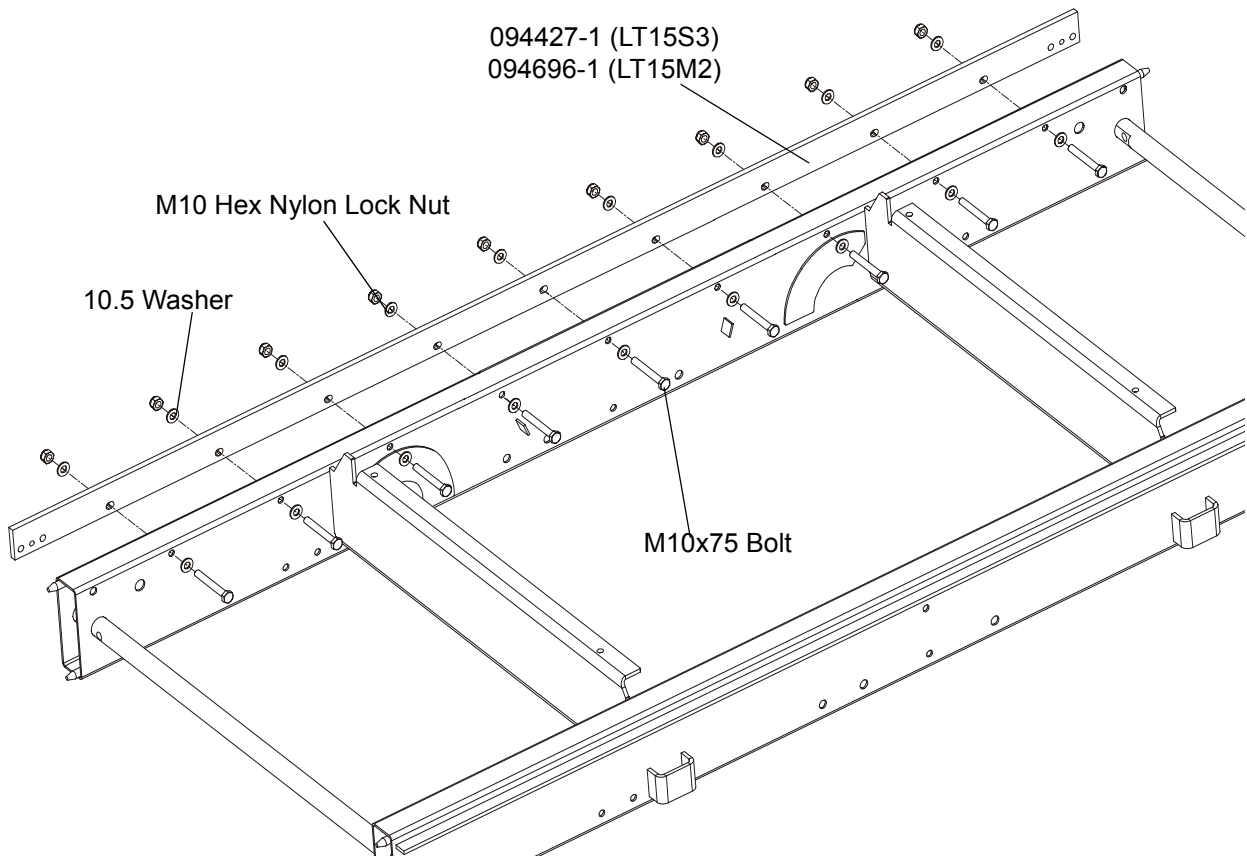

FIG. 3-2
1. Mount preliminarily the track rail as shown in the Figure 3-2. Do not tighten the nuts.
See Figure 3-2.